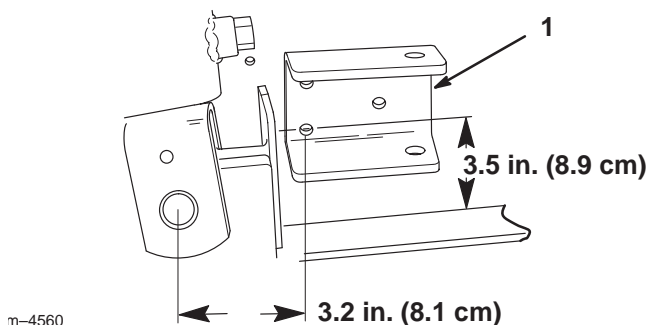

Figure 2
4. Line up the side bar bracket as illustrated in Figure 2 and mark the centers of the three holes (you may need to adjust the position of the bracket slightly so that the bracket and back-plate do not interfere with weldments on the traction unit).